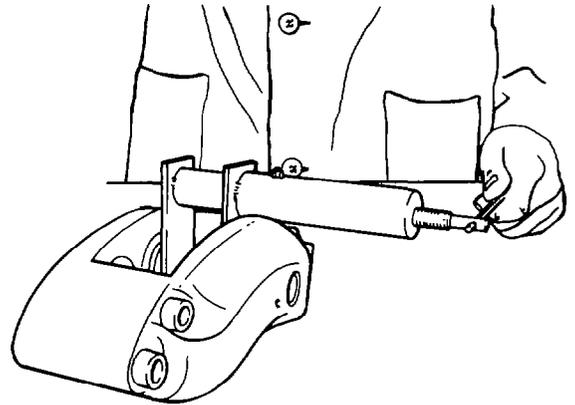

Figure 75 Clamping the Pistons
- b. Fit Special Tool No. 17 into the caliper so that the large pistons are held in place (see Fig 75); position the metal plate over one of the smaller pistons and secure it using the G-clamp.